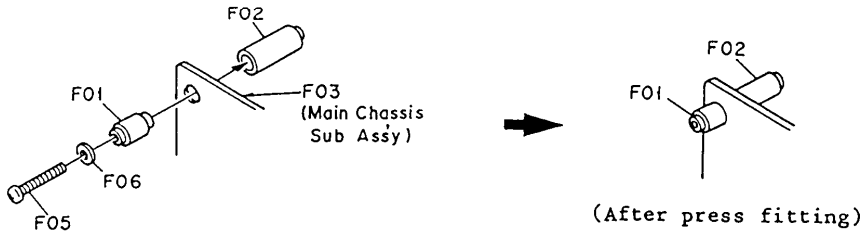

Fig. 2
- (3) Mount F01 and F02 (Studs) on F03 (Main Chassis Sub Ass'y). See Fig. 2.
- (4) Mount F06 (Washer 5.5mm) on F01, and screw F05 (Screw M4x22) to press F01 in F02.
- (5) After press fitting F01, remove F05 and F06.